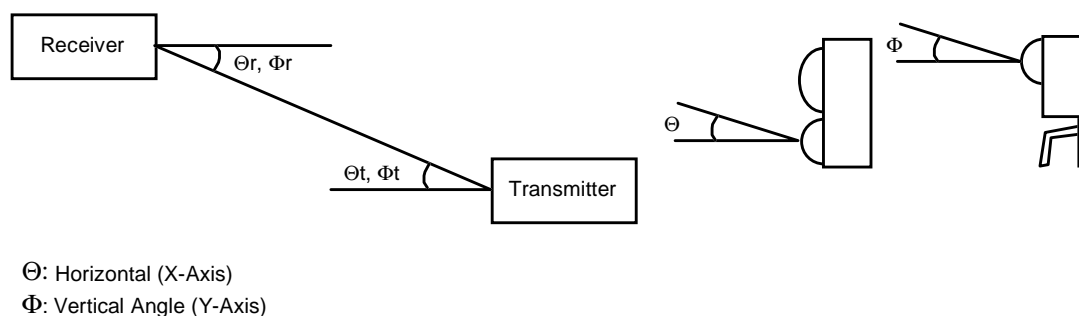

Figure 5.1 IrDA Control Transceiver Viewing Angle Criteria
- See Figure 5.1 (below) for the viewing angle definition.